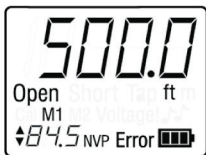

Figure 4-3. Error message in calibration mode.
- The "Error" message blinks at the bottom of the LCD display screen (see Figure 4-3).